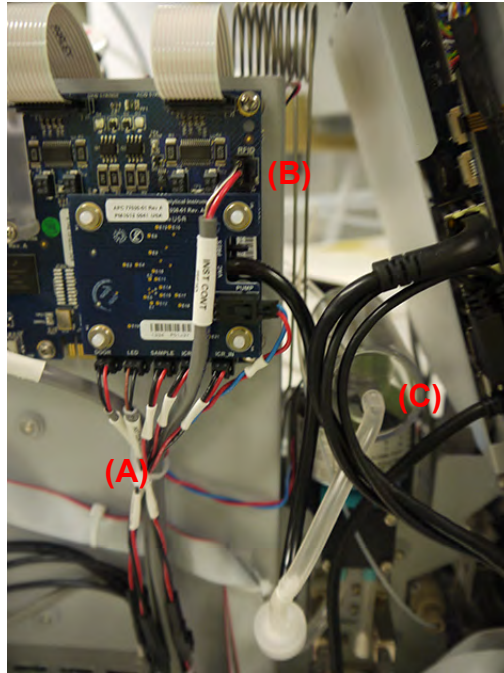

Figure 73: Electronics Side of Analyzer for Re-installation
- From the electronics side of the Analyzer, reconnect the tubing the back of the degasser (C), (Figure 73).
- Make sure to exercise ESD protection and reconnect the pump cable into the “Pump” connector on the ICR interface board (B), in (Figure 73).
- Attach a cable tie to gather and hold the multiple ICR interface board cables together (A), in (Figure 73).